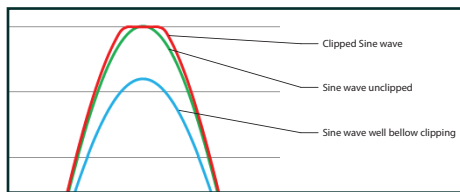

Fig 2 - Close-Up of waveforms
8. Increase the sensitivity of the amplifier until the scope waveform shows a small flat spot on the top or bottom of the waveform. See Figure 2 for an example of what to look for.